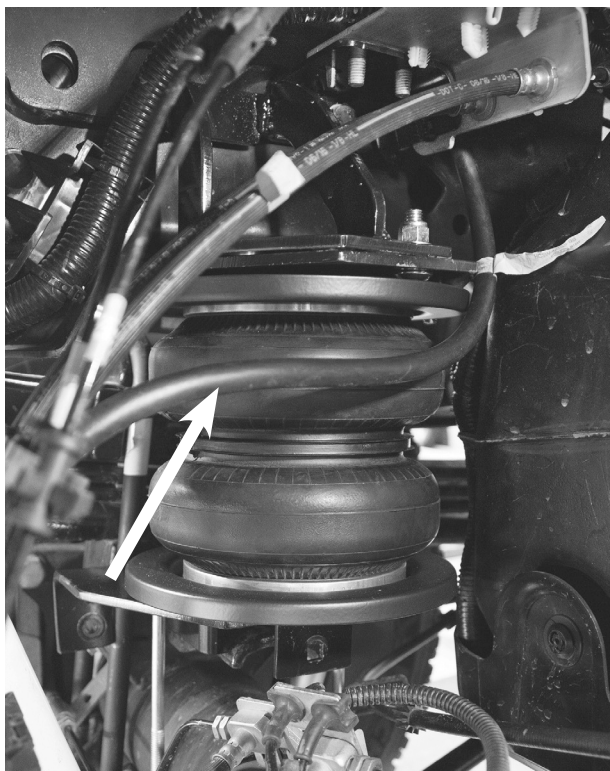

Fig. 35
- The axle vent tube will also have to be zip tied to one of the brake soft lines in order to keep it out of the way of the air spring assembly (Figs. 35 & 36).